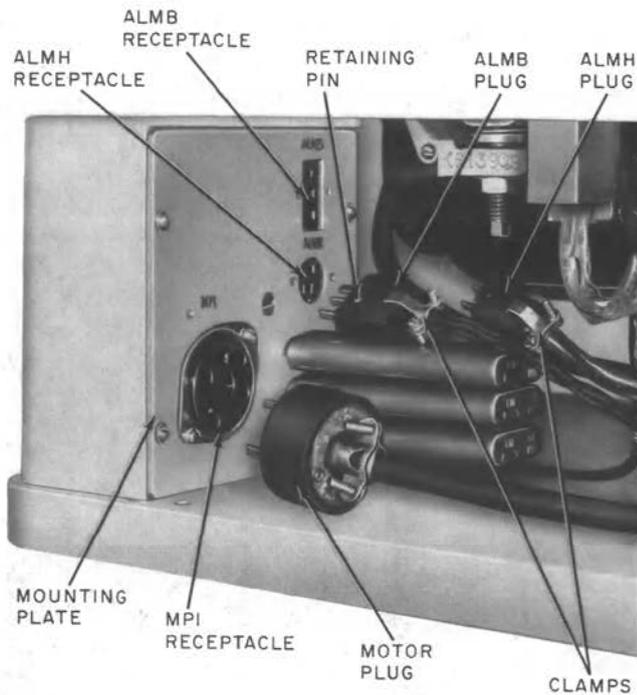

Fig. 61—Receptacles and Plugs
3.73 Motor Plug: To replace the motor plug (Fig. 61), proceed as follows.
3.74 ALMB and ALMH Plugs: To replace the ALMB or ALMH plug (Fig. 61), proceed as follows.
3.75 ALMB, ALMH, and MPI Receptacles: To replace the ALMB, ALMH, or MPI receptacles (Fig. 61), proceed as follows.